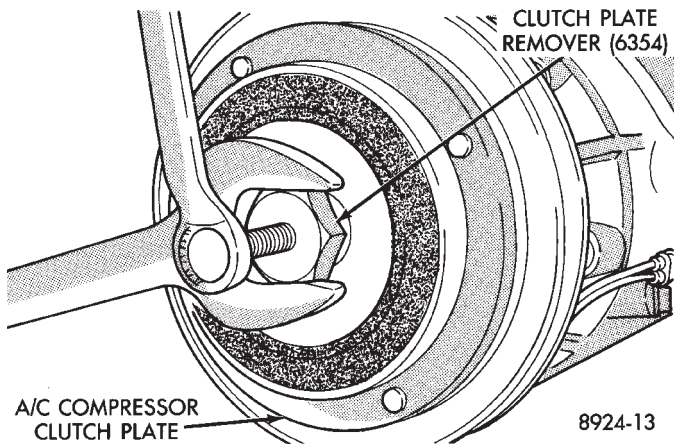
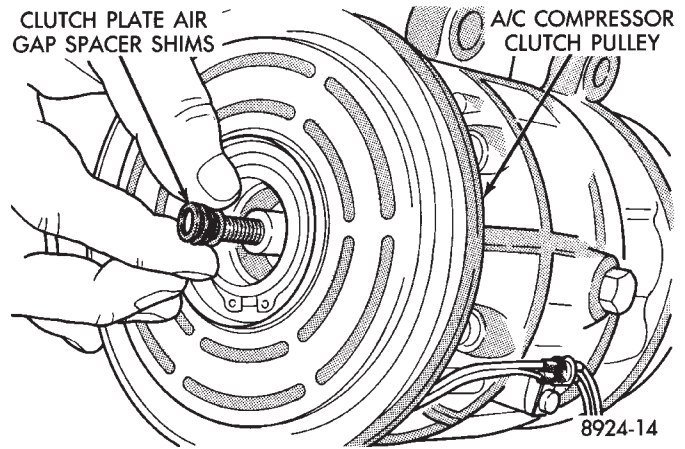
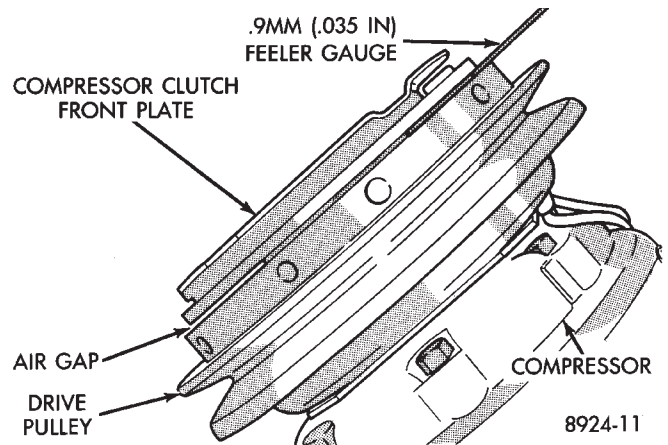

Fig. 4 Remove Front Plate
Fig. 5 Install Front Plate and Shims
Fig. 6 Measure Front Plate Air Gap
(2) Using a Clutch Plate Remover (6354), remove the clutch front plate from the compressor (Fig. 4). When installing the front plate, select the proper shims to achieve .5 to .9 mm (.020 to .035 inch) air gap to the pulley surface (Fig. 5). To install front plate, align shaft key to groove in front plate hub. Push on until it seats, and measure the air gap (Fig. 6).